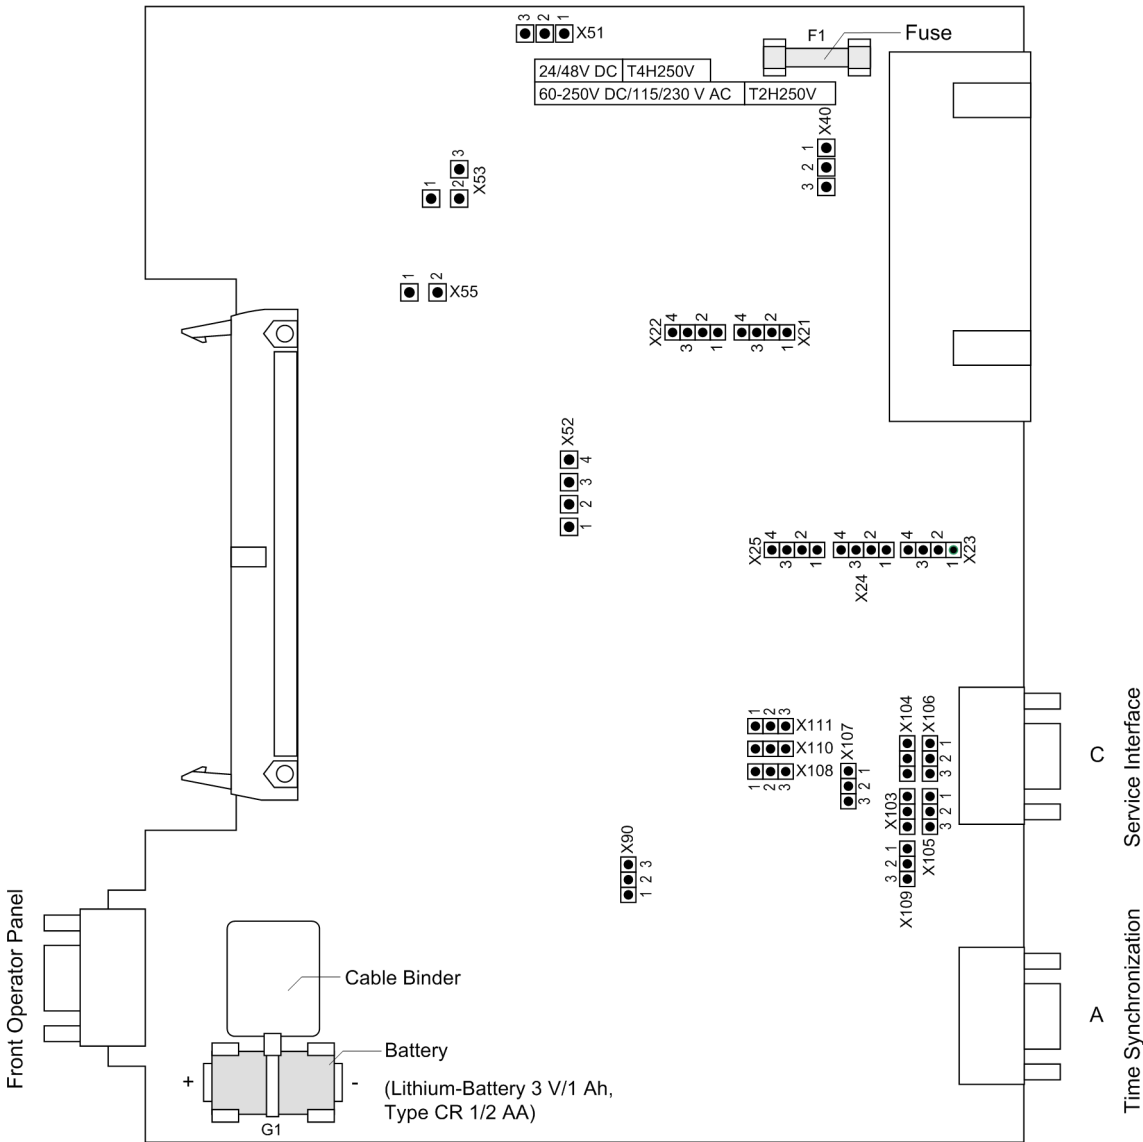

Figure 3-4 Processor printed circuit board C-CPU-2 with jumpers settings required for the board configuration
- Check the jumpers according to Figures 3-4 to 3-10 and the following information. Change or remove the jumpers if necessary.